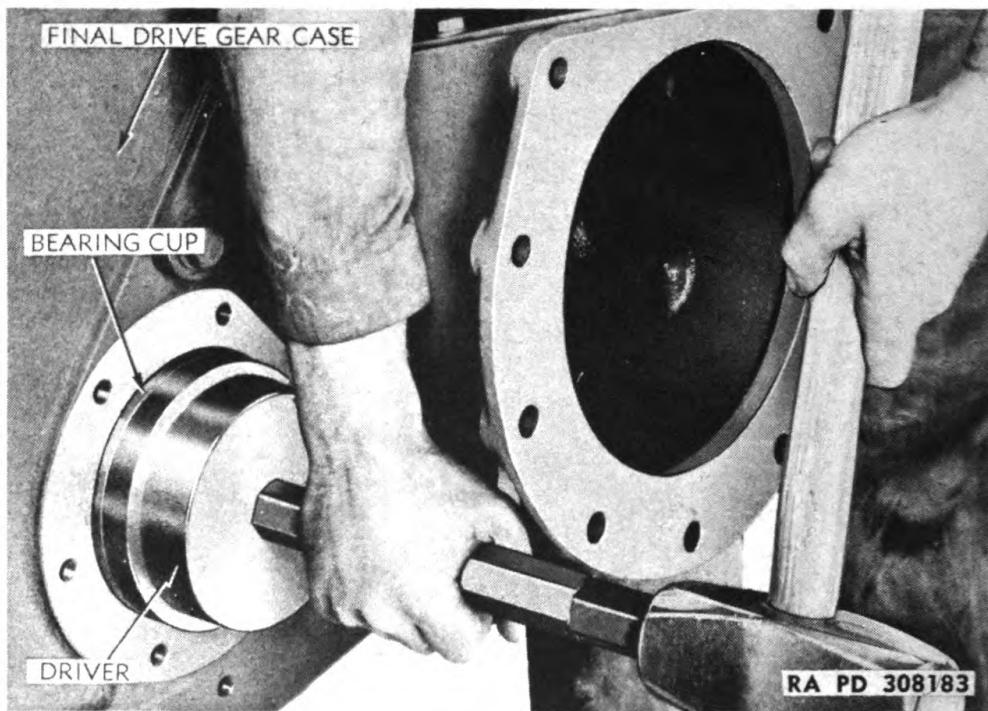

Figure 81 – Installing Sprocket Shaft Outer Bearing Cup, Using Replacer (41-R-2374-875)
c. Install Bearing Cups in Gear Case. Drive or press inner pinion bearing cup into inner side of gear case using replacer (41-R-2374-670), and install both sprocket shaft bearing cups in gear case in same manner using replacer (41-R-2374-875). Use above replacers or arbors as shown in figure 81 to install these cups. Leave sprocket shaft bearing cups flush with outer sides of case. The inner pinion bearing cup must be pressed in approximately one-half inch farther.